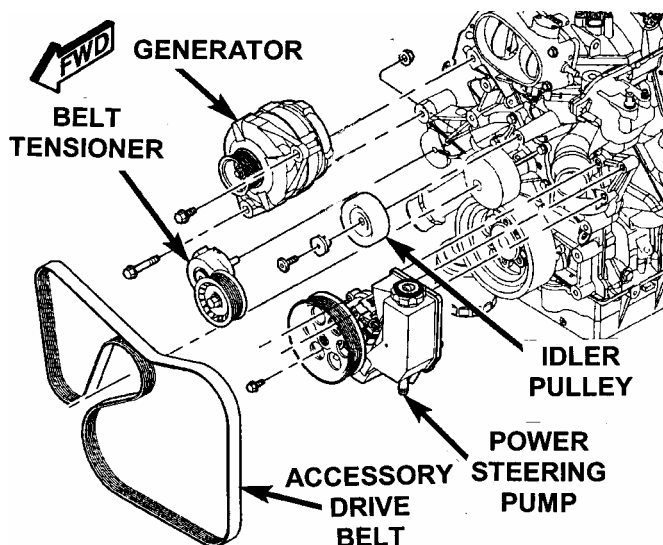

Figure 5
25. Remove the power steering pump assembly and set it aside in the driver side frame rail area (Figure 5).
26. Remove the accessory drive belt idler pulley (Figure 5).
27. Remove the generator (Figure 5).
70. Install the generator (Figure 5).
71. Install the accessory drive belt idler pulley (Figure 5). Tighten the bolt to 30 ft-lbs (41 N·m).
72. Install the power steering pump assembly (Figure 5). Tighten the bolts to 200 in-lbs (22 N·m).